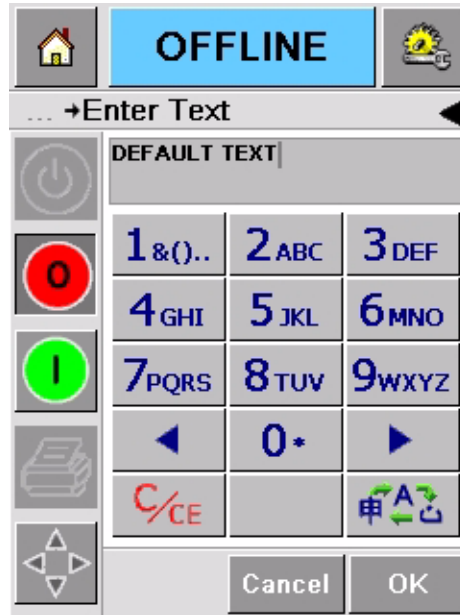

Figure 4-11: Default Data Window
- 1 Touch the required job variable to select it from the list of job variables. The current information is shown in the data window (Figure 4-11).